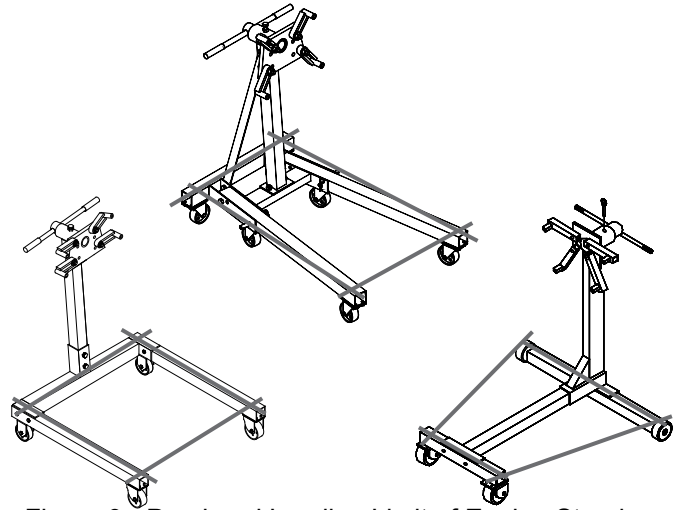

Figure 9 - Peripheral Loading Limit of Engine Stand
**WARNING: ALWAYS** verify that the product and the application are compatible. **NEVER** load the engine stand with an engine that extends beyond an imaginary line drawn connecting the centerlines of the front and rear wheel/ caster axles as show in Fig 9.